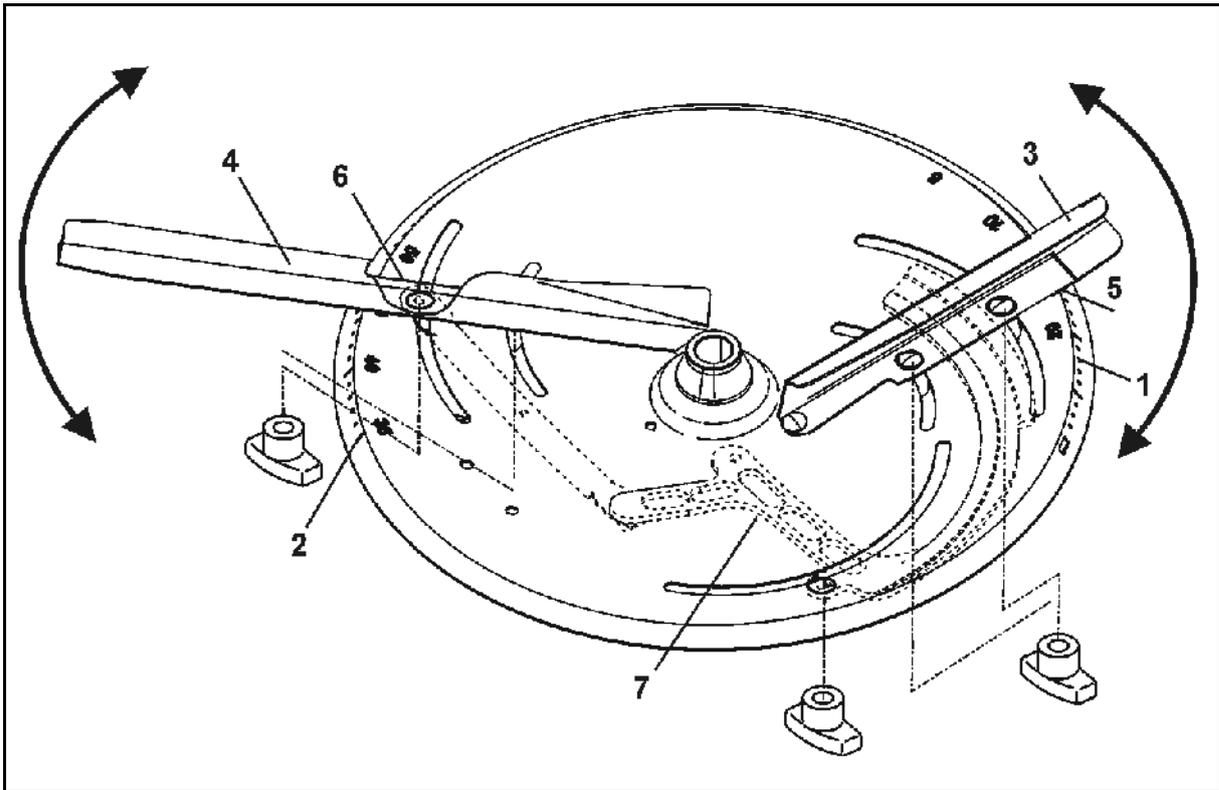

Fig. 60
Two different scales, designed so as to make it impossible to confuse them, are arranged on each spreading disc for precision setting of the individual spreading vane positions (Fig. 60/1 and Fig. 60/2).
- The shorter spreading vanes (Fig. 60/3) are assigned the scale (Fig. 60/1) with values from 5 to 28; the longer spreading vanes (Fig. 60/4) are assigned the scale (Fig. 60/2) with the values from 35 to 55.
- For the short spreading vane (Fig. 60/3), read off the set value on the read-off edge (Fig. 60/5).
- For the long spreading vane (Fig. 60/4), read off the set value on the read-off edge (Fig. 60/6).
- Swivelling the spreading vanes to a higher scale value (Fig. 60/1 or Fig. 60/2) increases the working width.